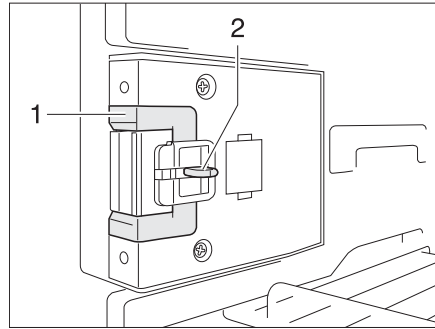
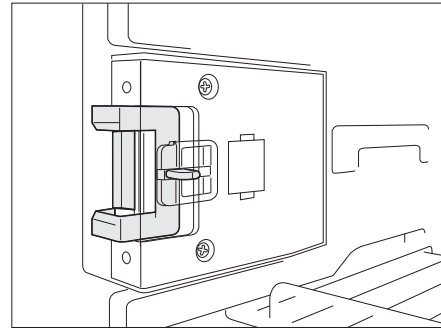

Fig. 275 Locking device in normal position
Fig. 276 Locking device in ventilation position
- Press down the unlocking device (Fig. 275,2).
- Push locking device (Fig. 275,1) forwards (Fig. 276).